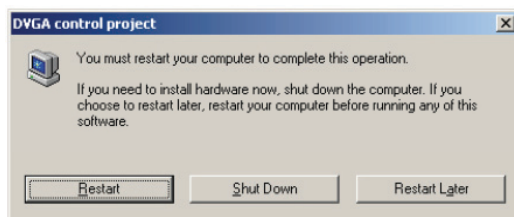

Figure 14. Recommended Restart Screen.
10. It is recommended to click Restart per Figure 14. This will reboot your computer and complete the software installation.